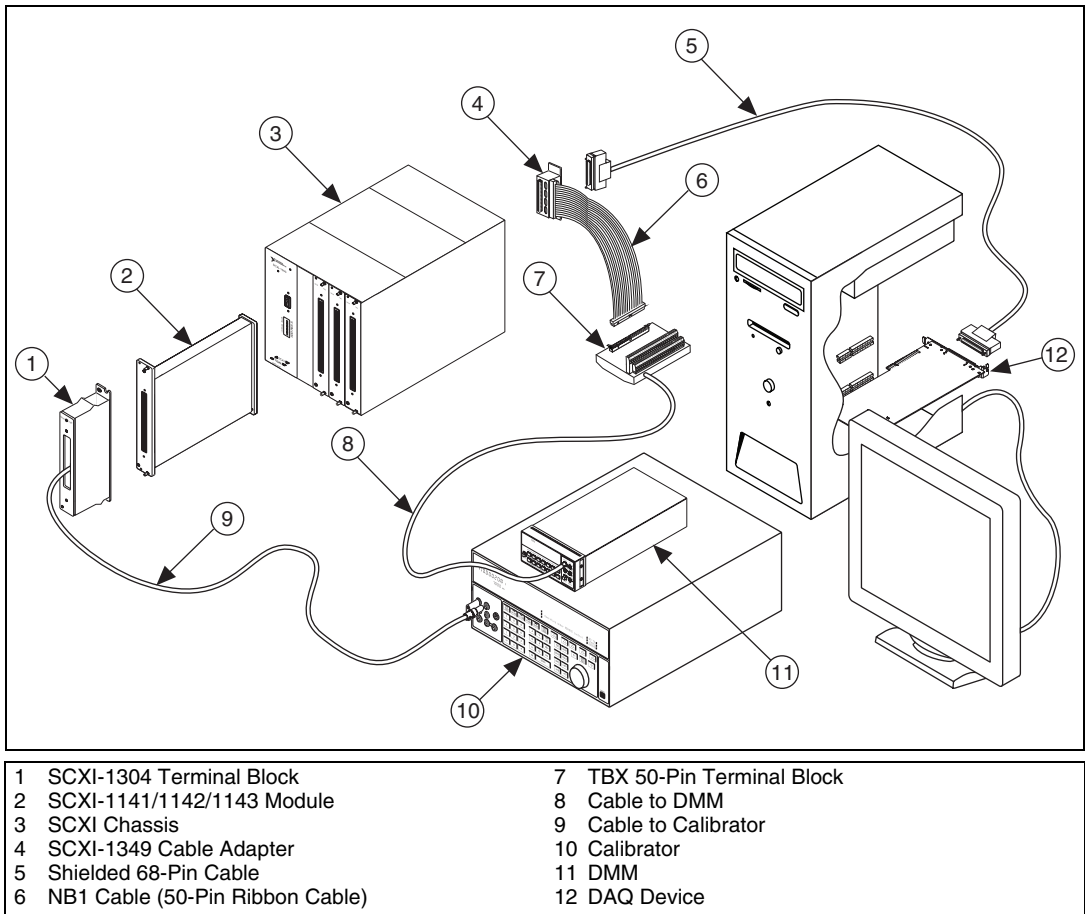

Figure 1. Typical SCXI-1141/1142/1143 Setup for Calibration
Complete the following steps, while referring to Figure 1 to set up the SCXI-1141/1142/1143 for calibration.
2. Assemble the SCXI-1141/1142/1143, chassis, terminal block, and DAQ device as shown in Figure 1. The SCXI module you are calibrating must be connected directly to the DAQ device.